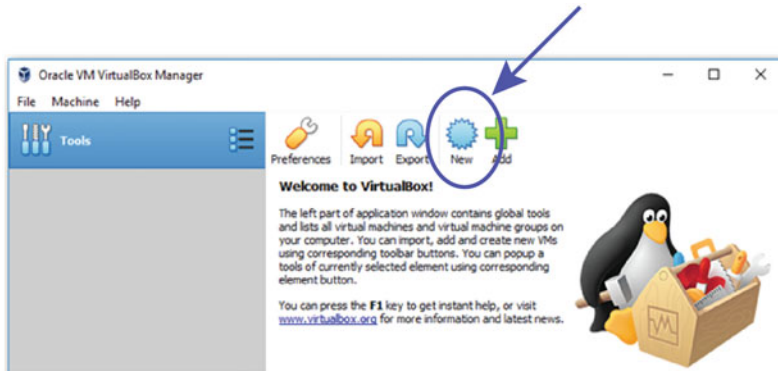

Fig. 11.11: Creating a new virtual machine in VirtualBox
Step 1: **Create a New Virtual Machine (VM)** by clicking on the New icon as shown in Fig. 11.11.